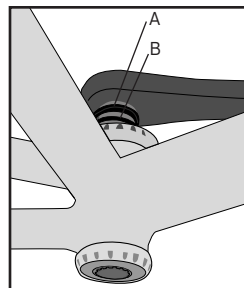

Figure 7 Insert the axle with the washers
2. Slide the elastomer washer (A, Figure 7) and the 1.0 mm spacer (B, Figure 7) onto the axle until they touch the crank.
3. Gently guide the axle through the left cup (Figure 7). Keep the axle centered and aligned.